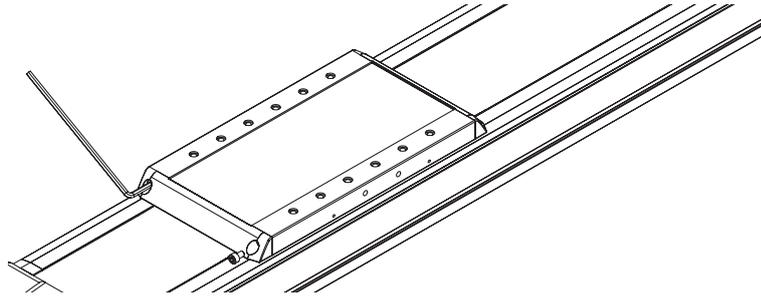

Fig. 7.16 **Removing/mounting the carriage end piece**
- ▶ Undo the carriage end piece screws. Remove the end pieces from both ends of all carriages (see Fig. 7.16).
- ▶ Place the carriage end pieces on the carriage as shown in Fig. 7.16 and hand-tighten the mounting screws.